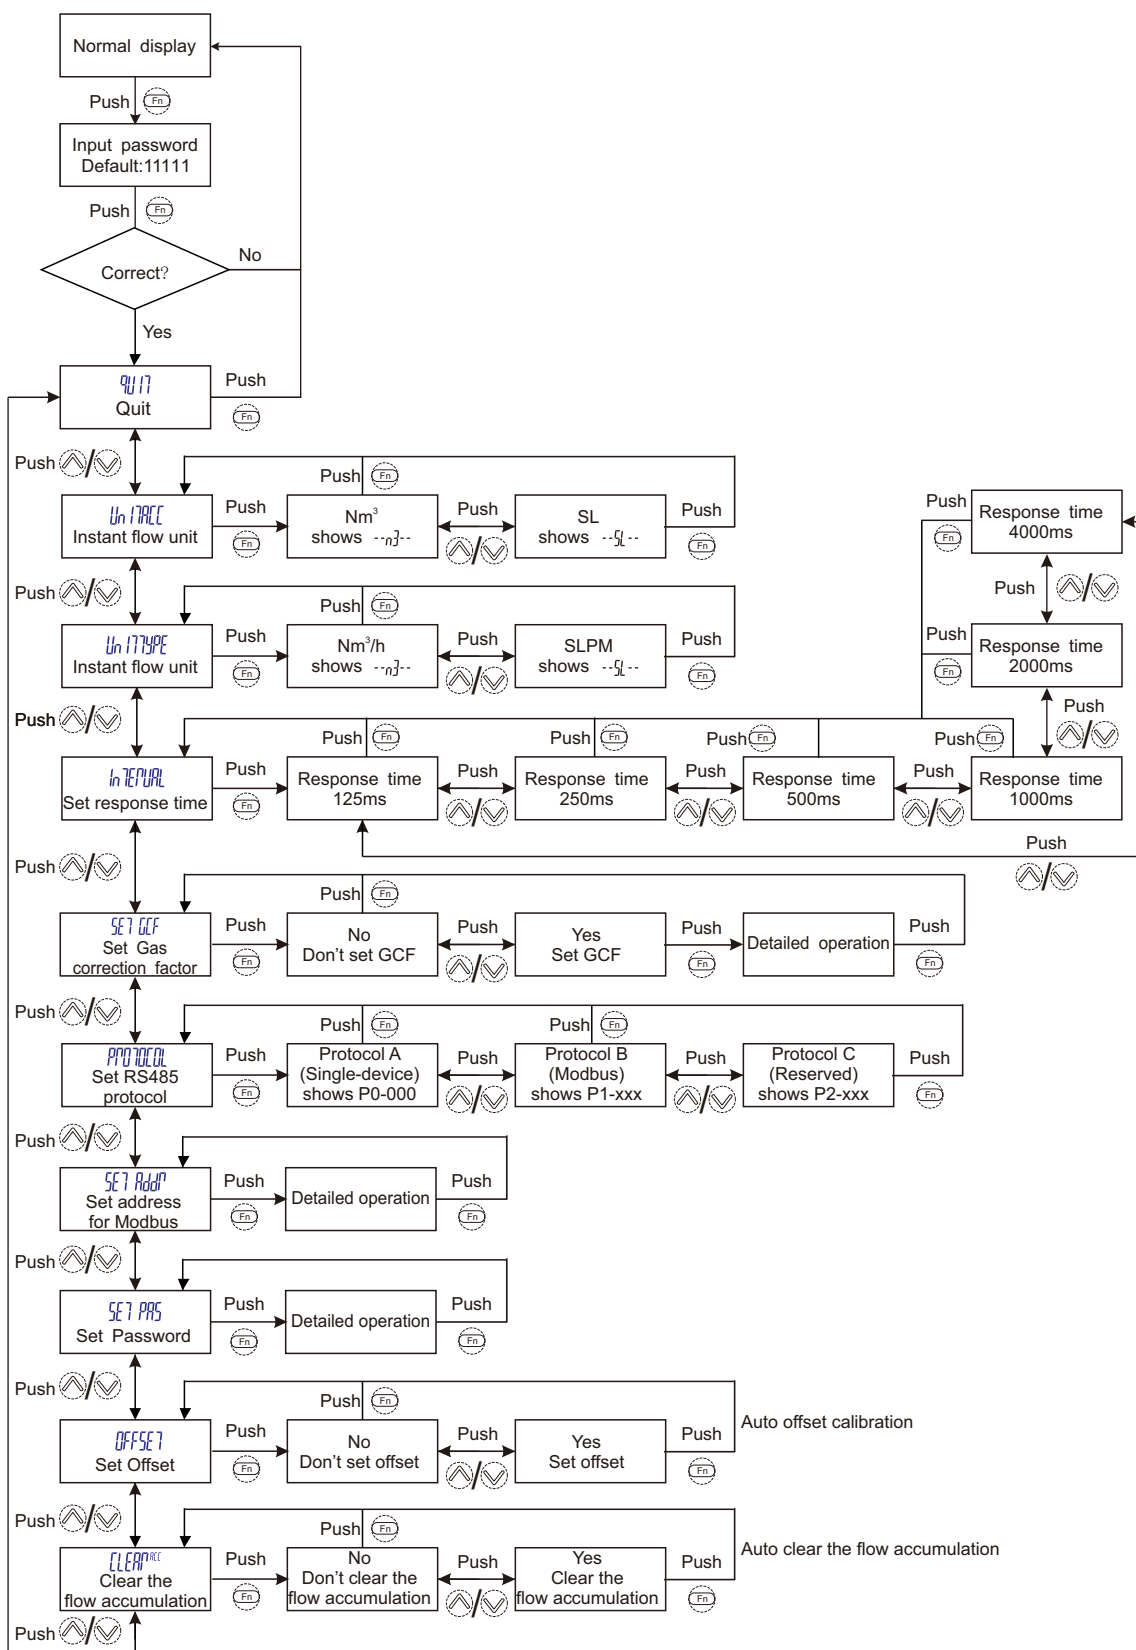

Figure 6-11 Button operation
- E **SEt GCF** “SET GCF”, Set the gas correction factor. See detailed operation in Figure 6-11.
- I **OFFSEt** “OFFSET”, reset the offset of the meter. See detailed operation in Figure 6-11.
- See detailed operation in Figure 6-11.